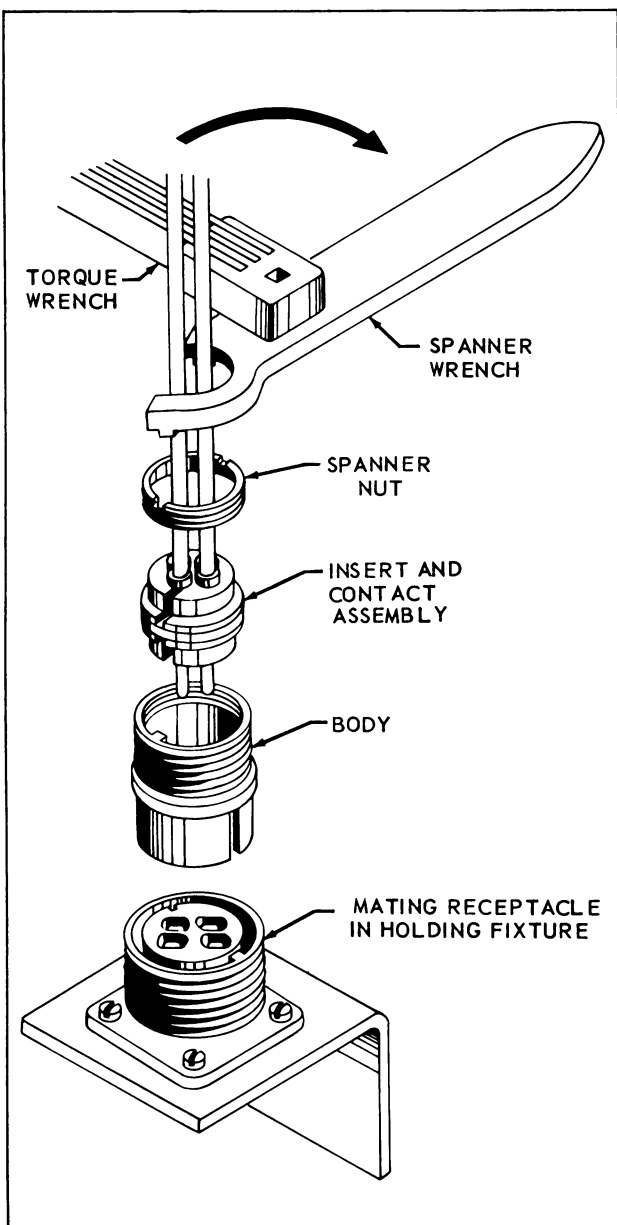

Figure 3-59. Torque Wrench Used on Bendix Fireproof Connector
n. Start spanner nut into connector body by hand and tighten with spanner wrench (see Table XXIV), using standard torque wrench handle (1/4 inch drive) as shown in Figure 3-59. Tighten to torque values indicated in Table XXIV.